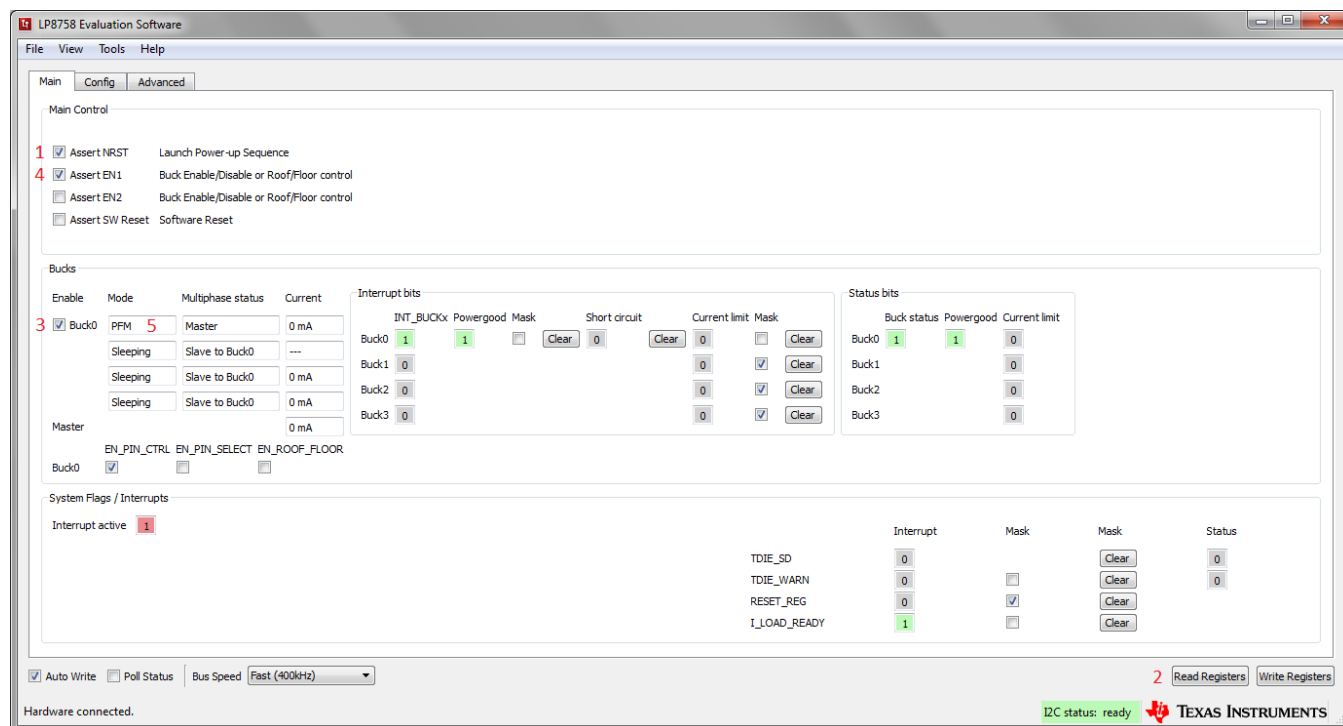

Figure 3. Evaluation Software GUI Showing Steps Needed to Power Up the LP8758
1. On Evaluation software GUI, click on Assert NRST. See Figure 3: Marking “1”.
2. Click on Read Registers button. You should see "I2C status: ready" message on the bottom of the GUI close to the Read Registers button. See Figure 3: Marking “2”.
4. Click on Assert EN1. See Figure 3: Marking “4”.
6. Check that the GUI indicates "PFM" under "Mode" and "Master" under "Multiphase status" of Buck 0. Mode of other bucks should be "Sleeping" and Multiphase status should be "Slave to Buck0". See Figure 3: Marking “5”. The EVM is now ready for testing with default register settings loaded.